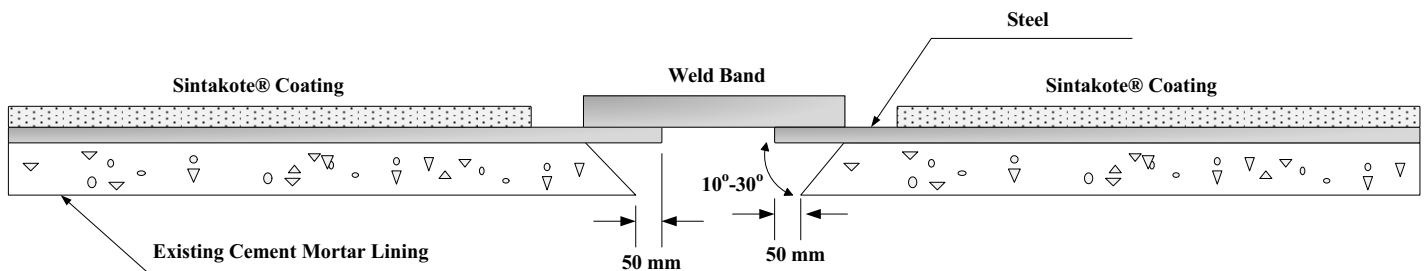

Figure 1– Existing cement mortar lining repair details
- 5.3 The existing cement mortar lining shall be cut back a minimum of 50 mm from the edge of steel. The edge of the cut lining shall be finished with an undercut (backward chamfered) angle of 10° to 30° and free from loose contaminants [Refer: Figure 1].